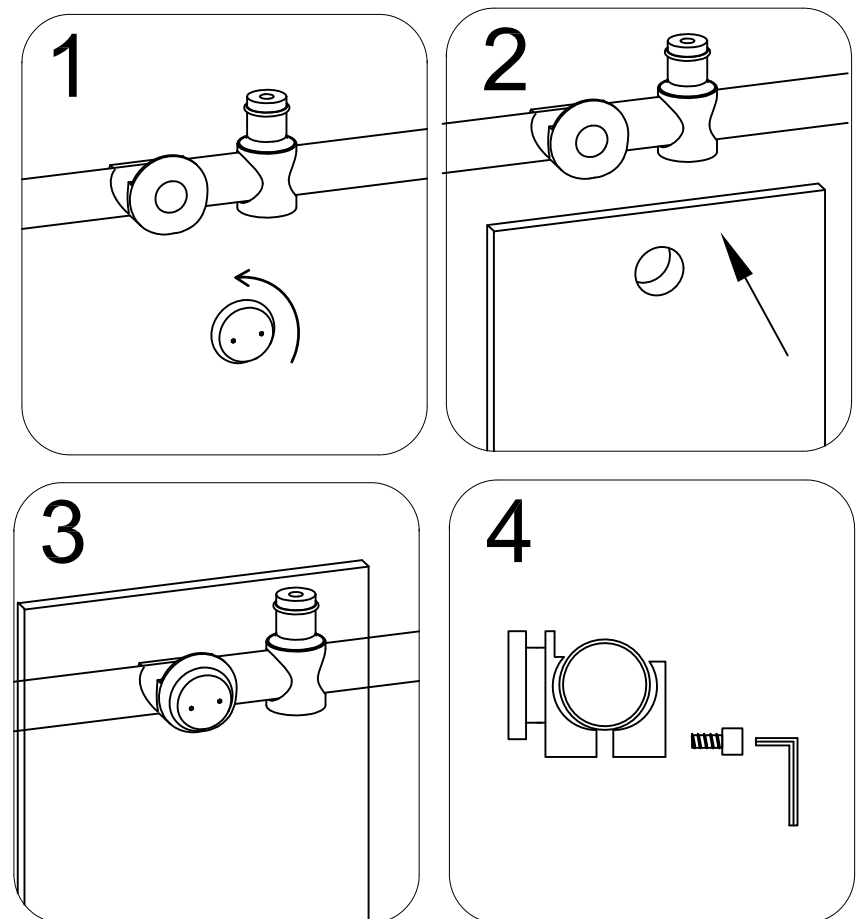

Fig. 23
Secure the Small Fixed Glass (20) to Small Fixed Glass Bolt Assembly following steps 1-4 in Fig.23.
See Fig.23 for details.